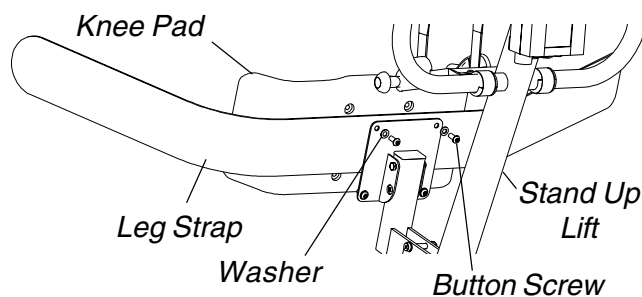

FIGURE 5 - REPLACING OPTIONAL LEG STRAP
### REPLACING OPTIONAL LEG STRAP (FIGURE 5)
1. Remove TOP (2) button screws and washers that secure knee pad and existing leg strap to stand up lift.
2. Loosen BOTTOM two (2) button screws and washers that secure knee pad and existing leg strap to stand up lift.
4. Position the new leg strap between the four (4) mounting holes as shown in **FIGURE 5**.